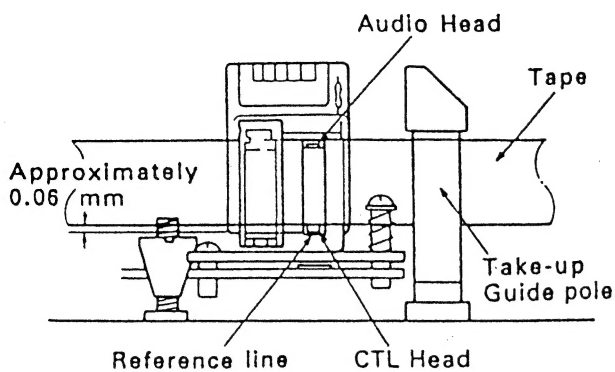

Fig.21 Audio/CTL Head height
- c) Carefully and evenly adjust screws ⑥ and ⑦, and nut ① to align the Audio/CTL Head height with the tape as shown in Fig.21.